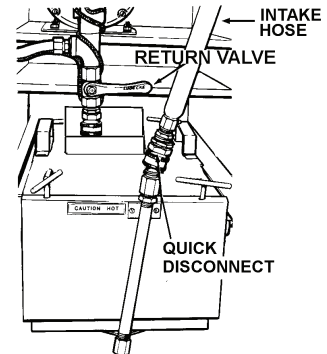

FIGURE 1. QUICK DISCONNECT
2. Release intake hose from filter drawer using the quick disconnect. Refer to Figure 1.